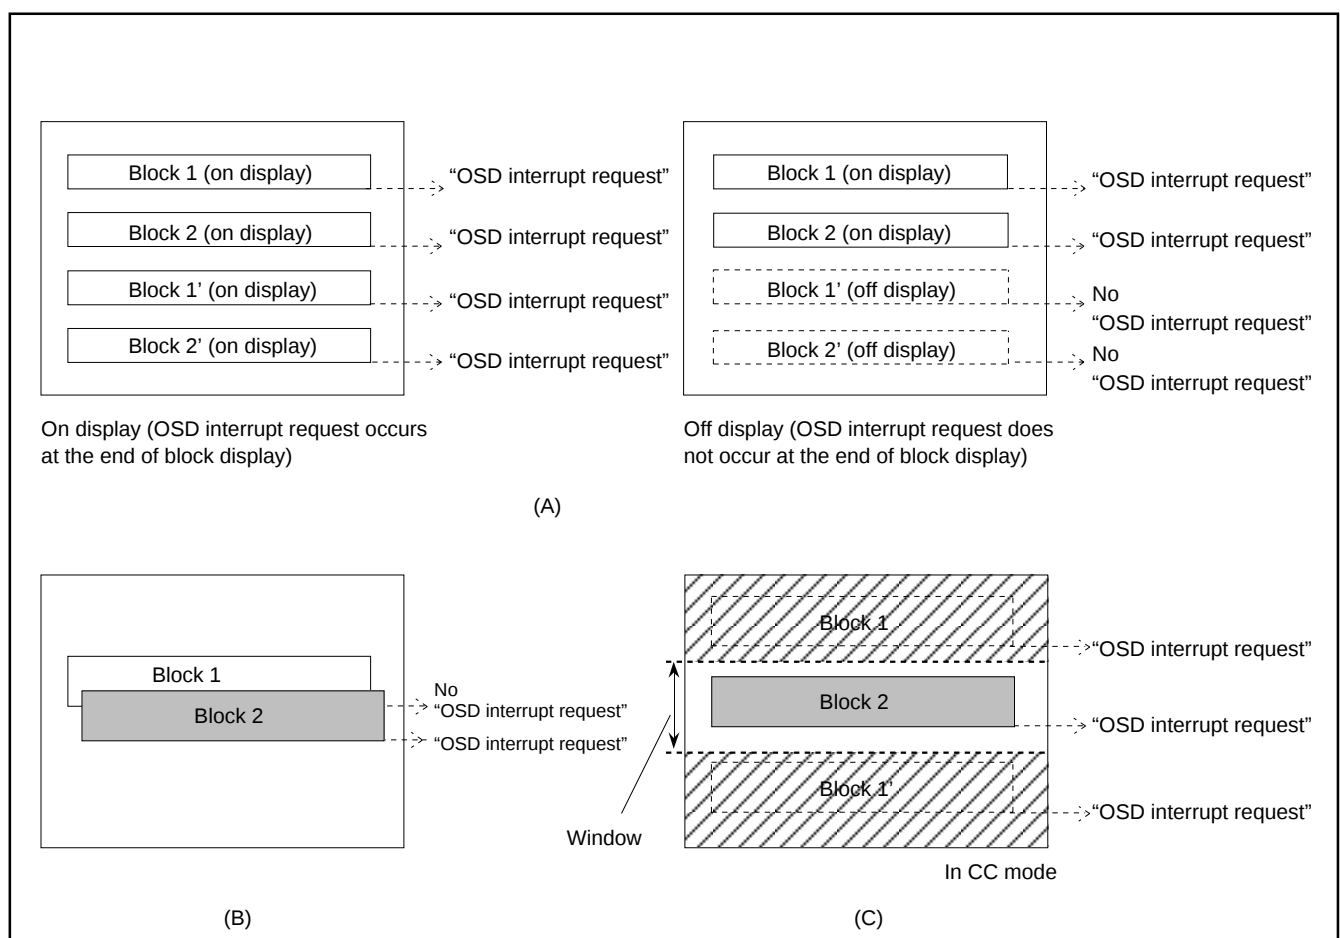

Fig. 8.11.23 Note on Occurrence of OSD Interrupt
Notes 1: An OSD interrupt does not occur at the end of display when the block is not displayed. In other words, if a block is set to off display by the display control bit of the block control register (addresses 00D216, 00D316), an OSD interrupt request does not occur (refer to Figure 8.11.23 (A)).
2: When another block display appears while one block is displayed, an OSD interrupt request occurs only once at the end of the another block display (refer to Figure 8.11.23 (B)).
3: On the screen setting window, an OSD interrupt occurs even at the end of the CC mode block (off display) out of window (refer to Figure 8.11.23 (C)).